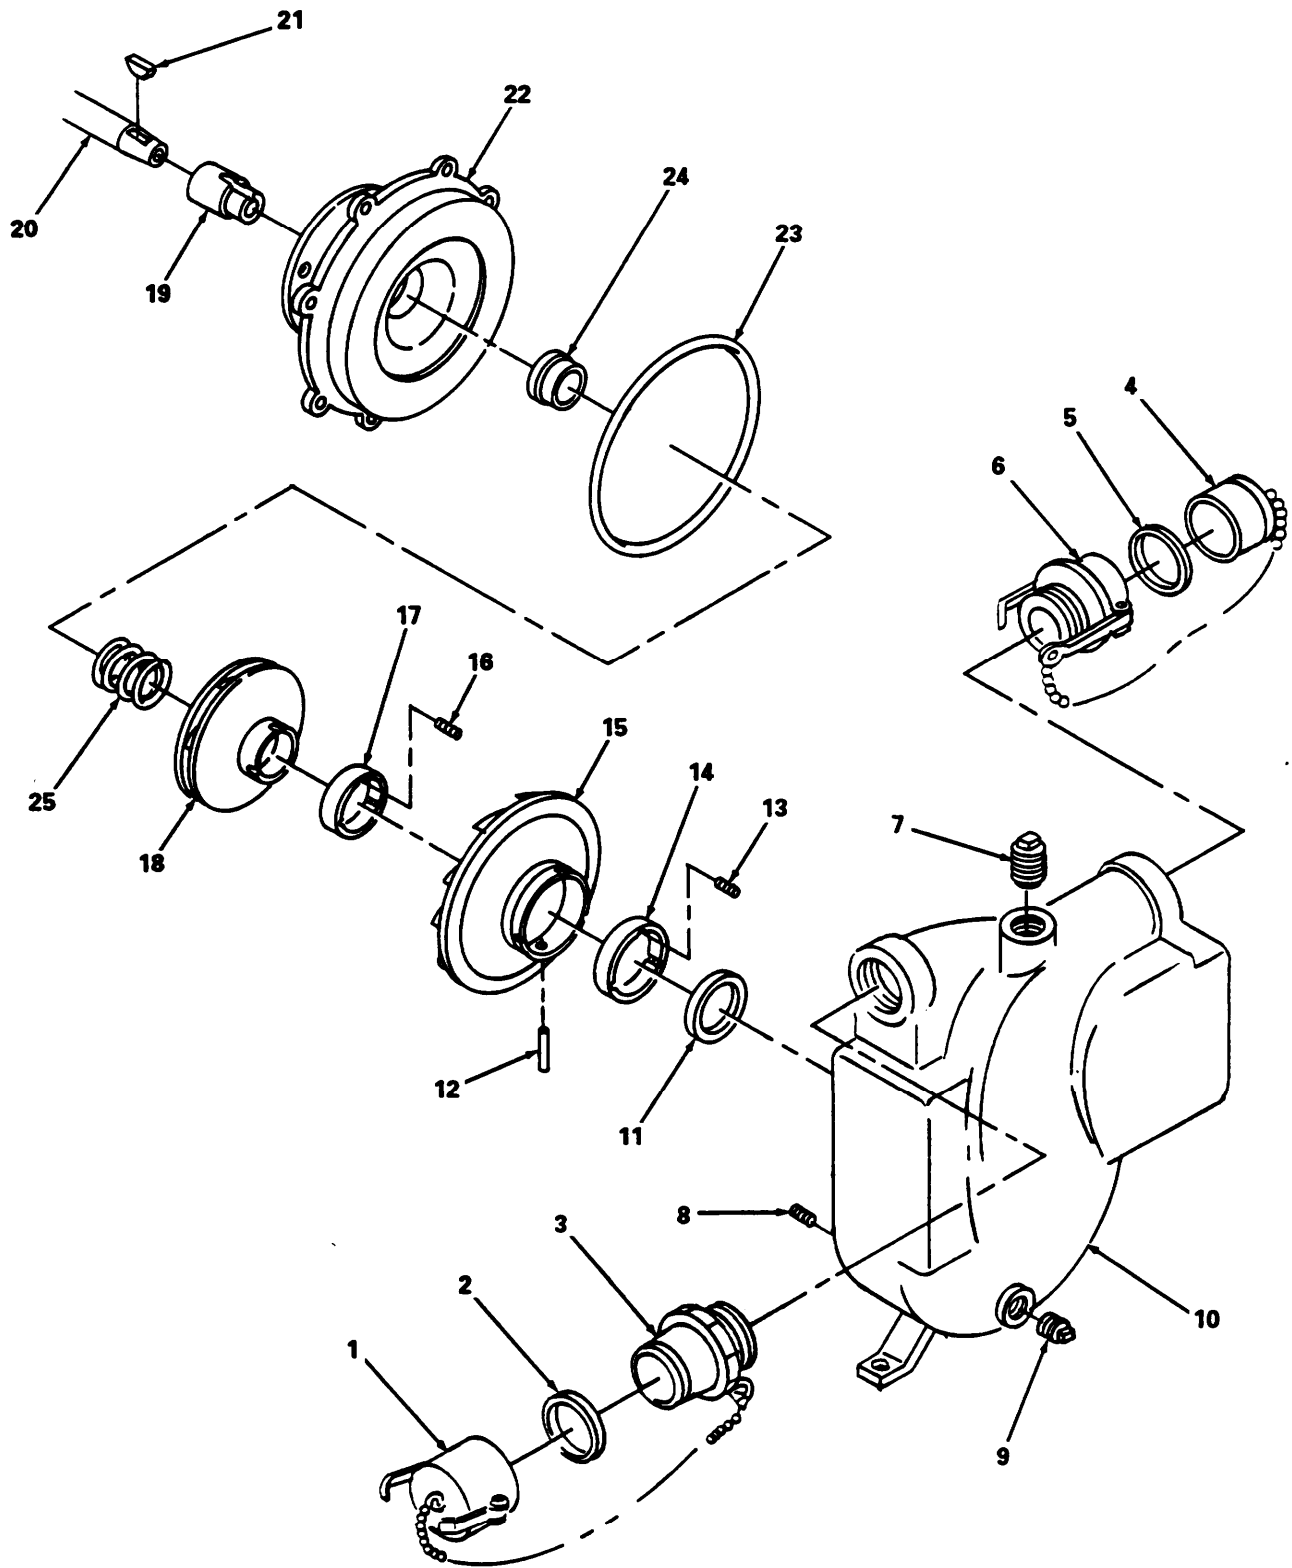

Figure 5-2. Pump Assembly, Assembly.
- (1) Clean all disassembled parts with cleaning solvent (Fed Spec P-D-680) and dry thoroughly with a soft wiping rag.
- (2) Use probe to remove any obstructions in vane of the impeller (18).
c. Inspection all parts including impeller housing (22), O-ring (23), mechanical seal (24), and spring (25) for cracks, breaks or any other damage.
e. Assembly (figure 5-2)
- (1) Position key (21) in slot of engine shaft (20).
- (2) Install pump shaft (19) on the engine shaft (20).
- (3) Assemble wear ring (17) on the impeller (18) and secure with three setscrews (16).
- (4) Press wear ring (14) on diffuser (15) and secure with setscrew (13). Install dowel pin (12).
- (5) Place sealer gasket (11) on diffuser (15) and insert the assembly into the pump housing (10). Make sure the dowel pin (12) mates with the slot in the pump housing (10).
- (6) Insert gaskets (2 and 5) in couplings (3 and 6) and install the couplings on the housing.
- (7) Install primer plug (7), drain plug (9) and inserts (8).